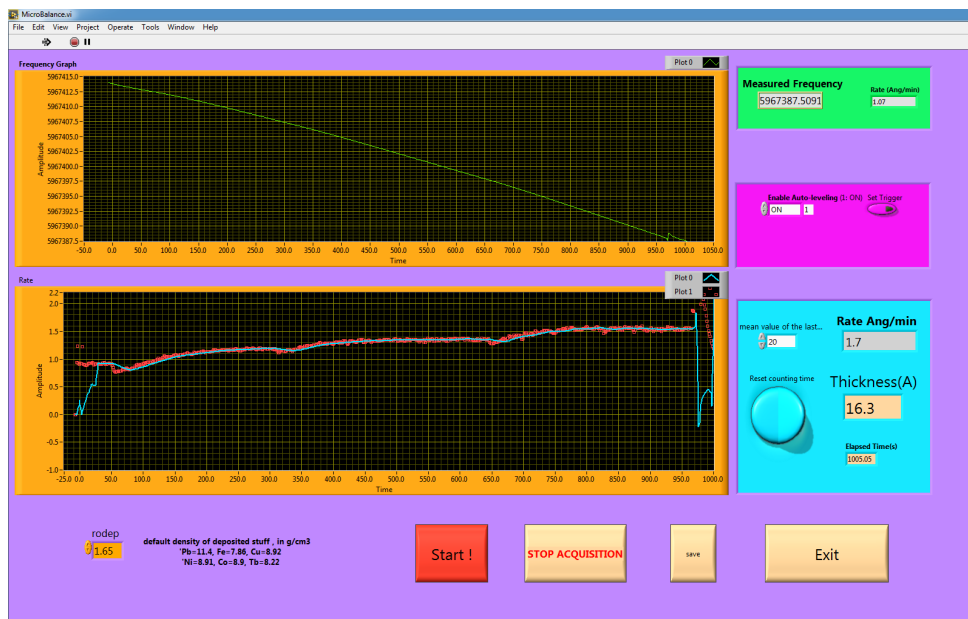

Figure 39: MBE Microbalance panel.
7. Press the "read MicroBalance" button on the main acquisition panel. The Microbalance Panel will appear (fig.39). Here, set the molecular density (g/cm³) of your molecule in the "rodep" field and press "Start" to monitor the evaporation rate (Angstrom/min). The rate on the sample is the 13% of the rate readed by the microbalance for the standard 21 cm boron nitride evaporator, 30% for the Omicron one.